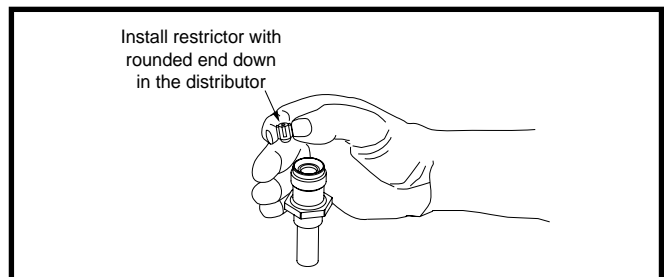

Figure 4. Restrictor Insertion into Distributor Body
4. Insert the new orifice into the distributor body, rounded end down. See Figure 4.